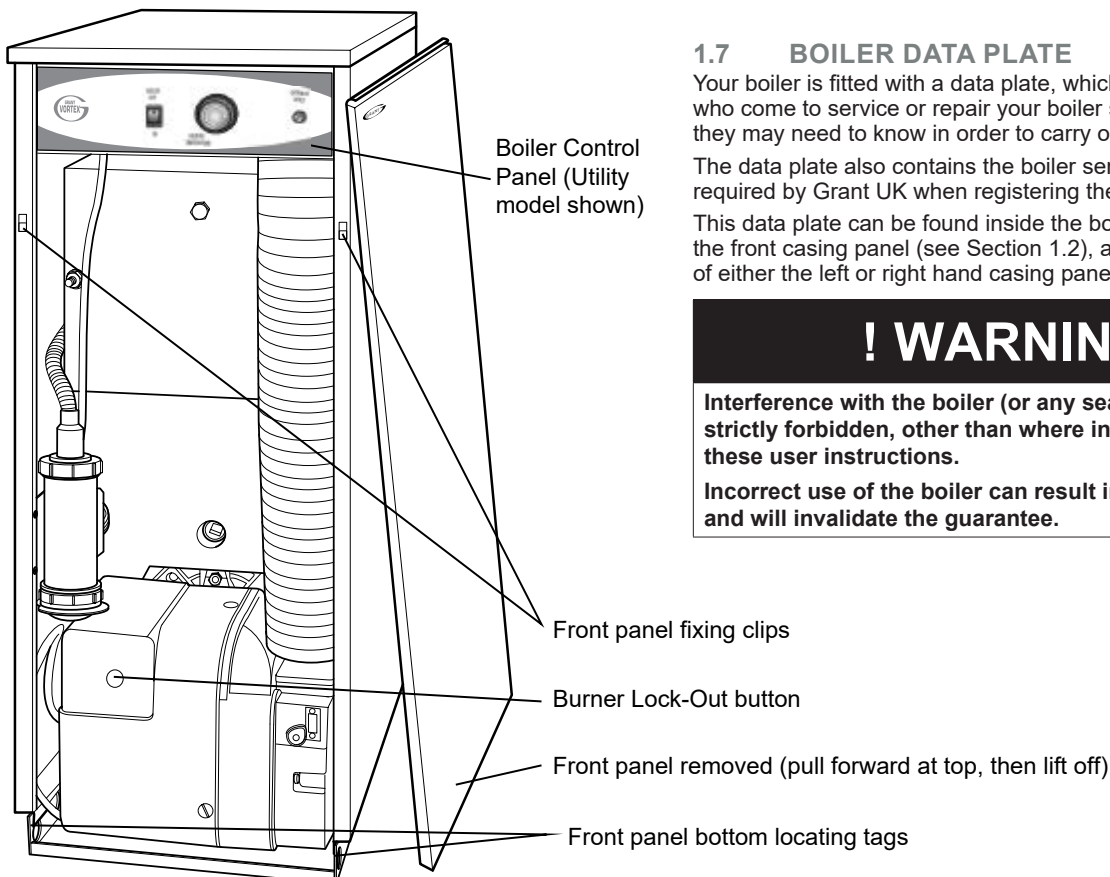
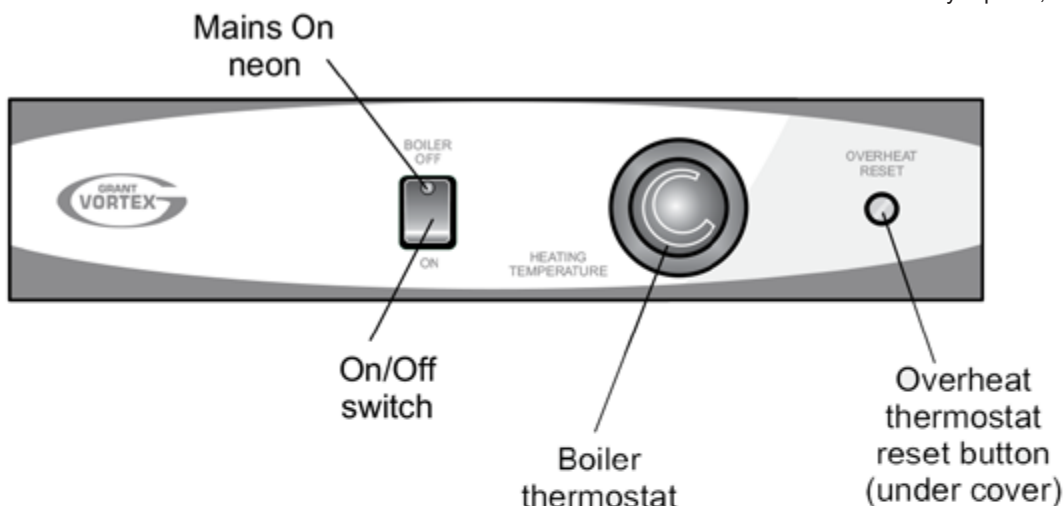

Figure 1-1: Boiler components
Figure 2-1: Vortex Eco Utility boiler control panel
Kitchen/Utility boilers have a 'mains on' neon, see Figure 2-1, which lights when the boiler is switched on.
To gain access to the boiler controls, pull the front panel forward at the top to disengage the fixing clips, then lift it up and off the boiler, as shown in Figure 1-1.
4. Check if the burner 'Lock-Out' reset button on the burner body (refer to Figure 1-1 for location) is lit.
Refer to Figure 1-1 for the location of the control panel within the boiler casing and Figure 2-1 for the details of the control panel.
To reset the overheat thermostat, unscrew the small plastic cap marked "reset" (see Figure 2-1), press the button and replace the cap.